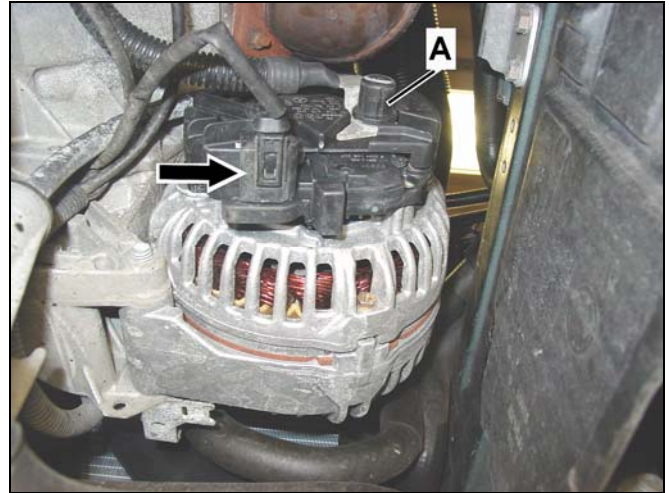

Figure 15
4. Disconnect circuit 61 connector (arrow, Figure 15) from regulator.
5. Remove circuit 30 cover (A, Figure 15) from terminal.